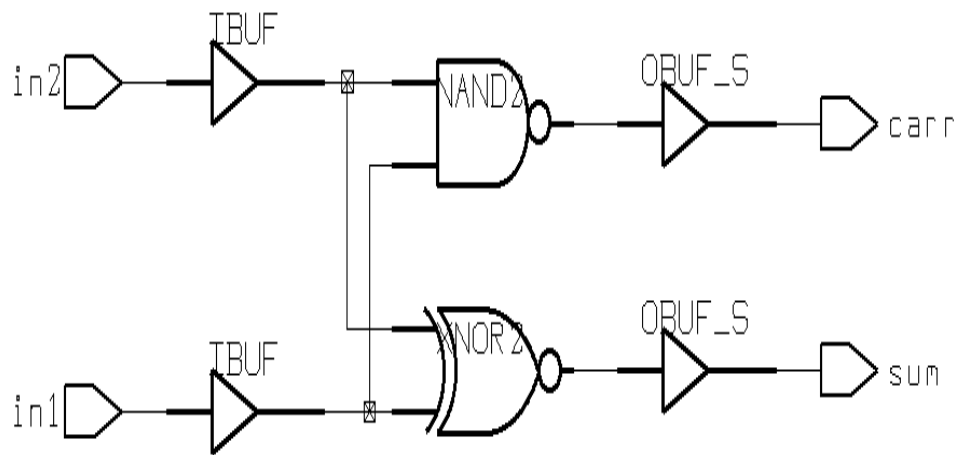

Figure 19: Post replace\_fpga synthesis results for half\_adder design.
(5) Use the Design Analyzer to read in the half\_adder.db file from the Synthesized directory. Descend down the design hierarchy and view the schematic. What are the differences between the two synthesized designs? You can see the effect that the replace\_fpga command had on the two results. The post replace\_fpga design now consists of a gate level schematic diagram. The buffers labelled IBUF and OBUF\_S are input/output buffers added by the synthesis tool. See Figure 19.